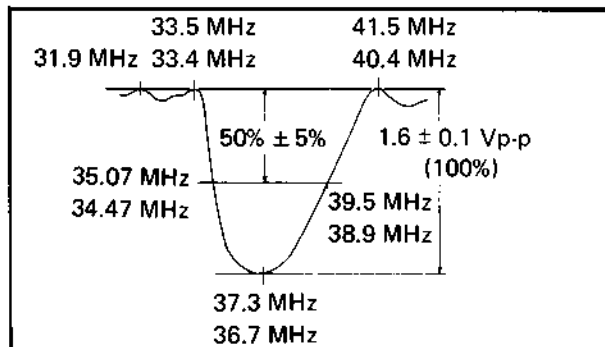

Fig. 6-53
12. Adjust C101 (trimmer cap.) so that the waveform height becomes 50% of the peak level at the 35.07 MHz and 39.5 MHz (HR-3330EK), 34.47 MHz and 38.9 MHz (HR-3330EG) markers as shown in Fig. 6-53.
14. Readjusting each trap exactly by turning the cores of T102 and T103, make sure that the waveform looks like that shown in Fig. 6-53.